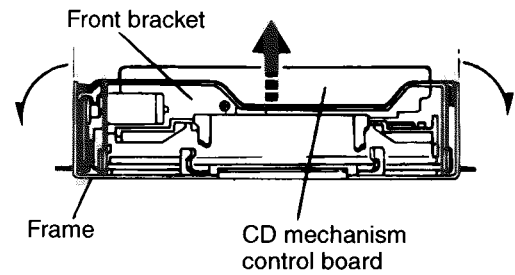
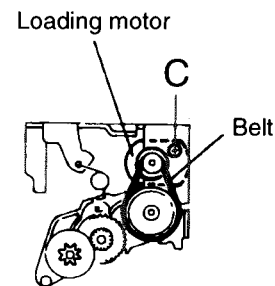

Fig.14
Fig.15
- CAUTION:** Remove the front bracket from the frame while expanding both sides of the frame as shown in Fig.14
(See Fig.14 and Fig.15)
(See Fig.15)